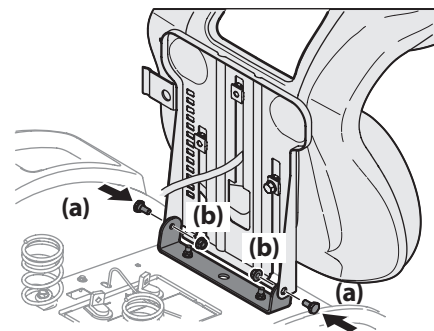

Figure 2
4. With the previously removed shoulder bolts (a) and flange lock nuts (b) secure one side of the seat and seat bracket. While supporting the seat, remove the Phillips screwdriver and secure the other side of the seat. Be careful not to crimp or damage the wire harness while installing the seat. See Figure 2. Torque to 84-103 in-lbs (9.5-11.6 N-m).